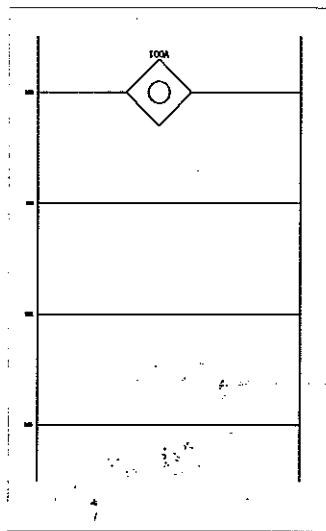
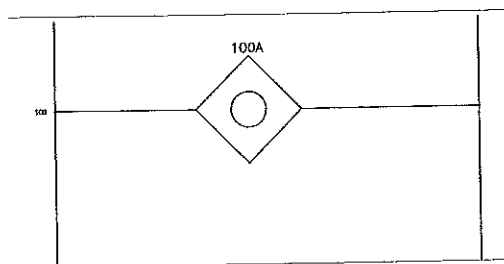

Figure 13-41 Symbol inserted into the ladder
Figure 13-42 The zoomed view of the symbol inserted into the ladder
7. Enter **13.5,18** at the Command prompt and press **ENTER**; the **Insert / Edit Component** dialog box is displayed. Enter **100A** in the edit box of the **Component Tag** area and choose the **OK** button; the symbol is inserted into the ladder, as shown in Figure 13-41. Figure 13-42 shows the zoomed view of the symbol inserted into the ladder.